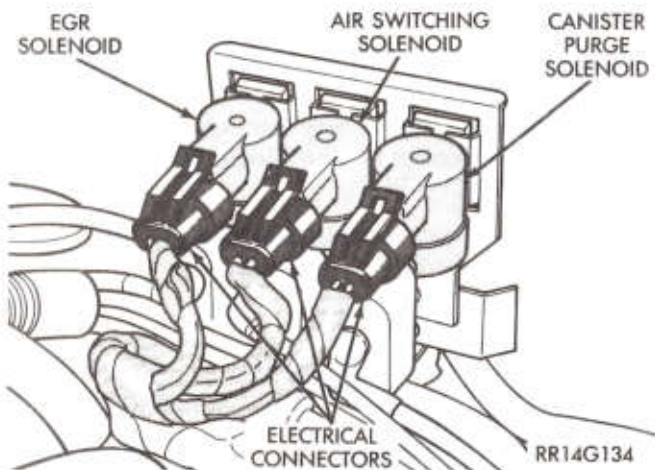

Fig. 10—Electrical Connector Canister Purge Solenoid, Air Switching Solenoid, and EGR Diagnostic Solenoid
(13) Verify that the 2-way connector is attached to the Air Switching Solenoid (Fig. 10).
(14) Verify that the 2-way connector is attached to the Canister Purge Solenoid (Fig. 10).
(15) Verify that the 2-way connector is attached to the EGR Solenoid (Fig. 10).